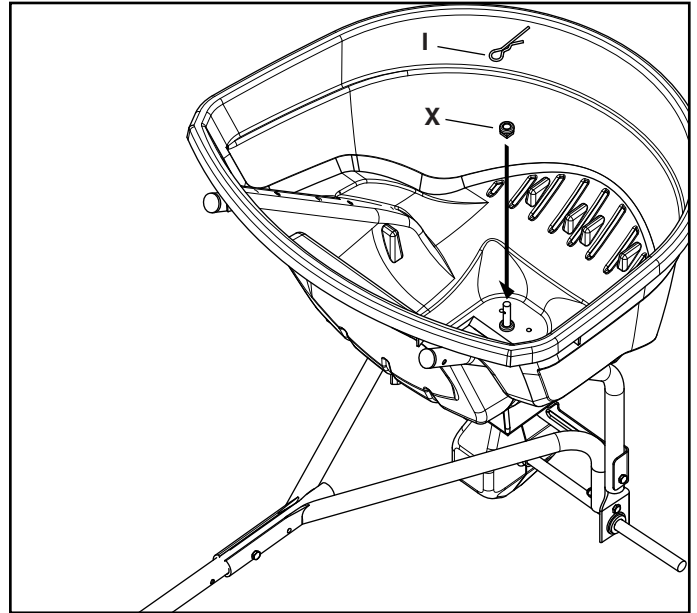

FIGURE 7
STEP 7: (SEE FIGURE 7)
- Slide the hopper bushing (X) onto the spreader shaft and insert it into the bottom of the hopper.
- Install the agitator hairpin (I) in the spreader shaft.